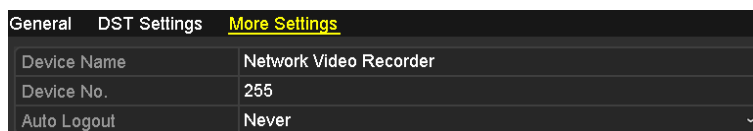

Figure 15. 3 More Settings Interface
2. Click the **More Settings** tab to enter the More Settings interface, as shown in Figure 15. 3.